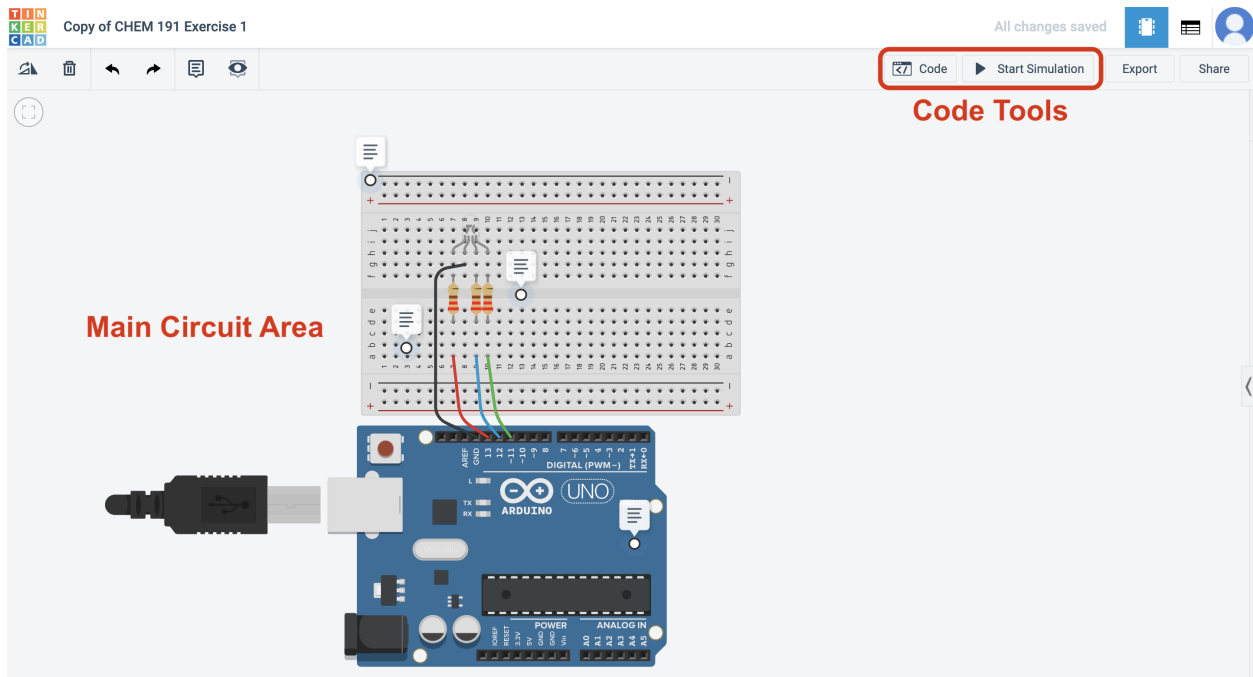

Figure 1: *The default Tinkercad view. The code pane can be accessed by clicking the Code button in the red box; the Start Simulation button runs the code.*
1. Click the **Code** button at the top right of the Tinkercad window. The code pane will slide out. (See Figure 1, below.)